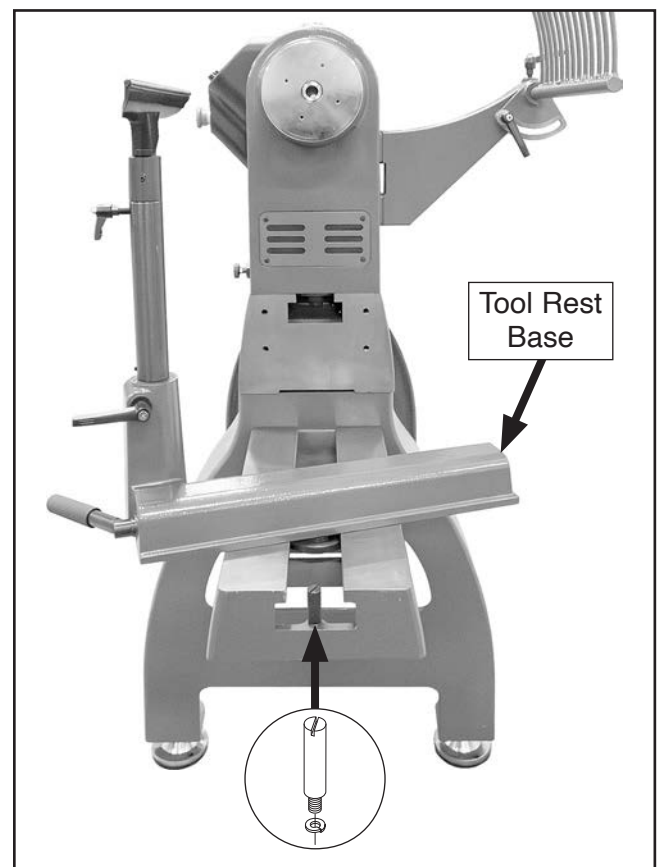

Figure 88. Location of bed extension components (bed extension mounted to stand leg).
4. With help from an additional person, mount bed extension on (4) cap screws installed in **Step 3**, then fully tighten cap screws.
5. Remove bed stop on bed extension and install tool rest base, then re-install bed stop (see **Figure 88**).